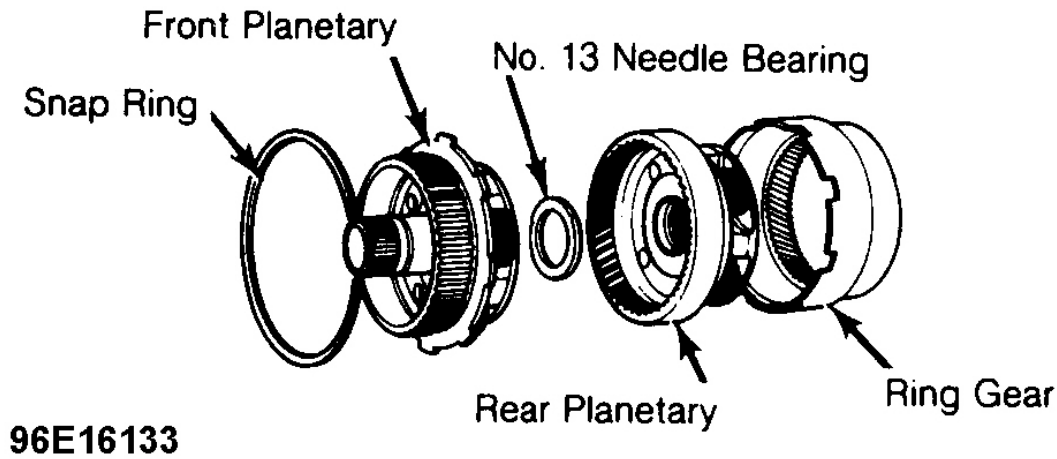

Fig. 26: Planetary Assembly
Remove snap ring, front planetary and No. 13 needle bearing. Remove rear planetary from shell and ring gear assembly. To assemble, reverse disassembly procedures. See **Fig. 26**.
12. Reassemble ring gear and shell assembly, rear planetary, No. 13 needle bearing, front planetary and snap ring. See **Fig. 26** . Carefully slide planetary assembly over output shaft.